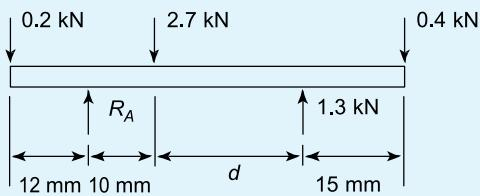

Figure 5.16
- Calculate the force R_A and distance d for the beam shown in Figure 5.16. The mass of the beam should be neglected and equilibrium conditions assumed.